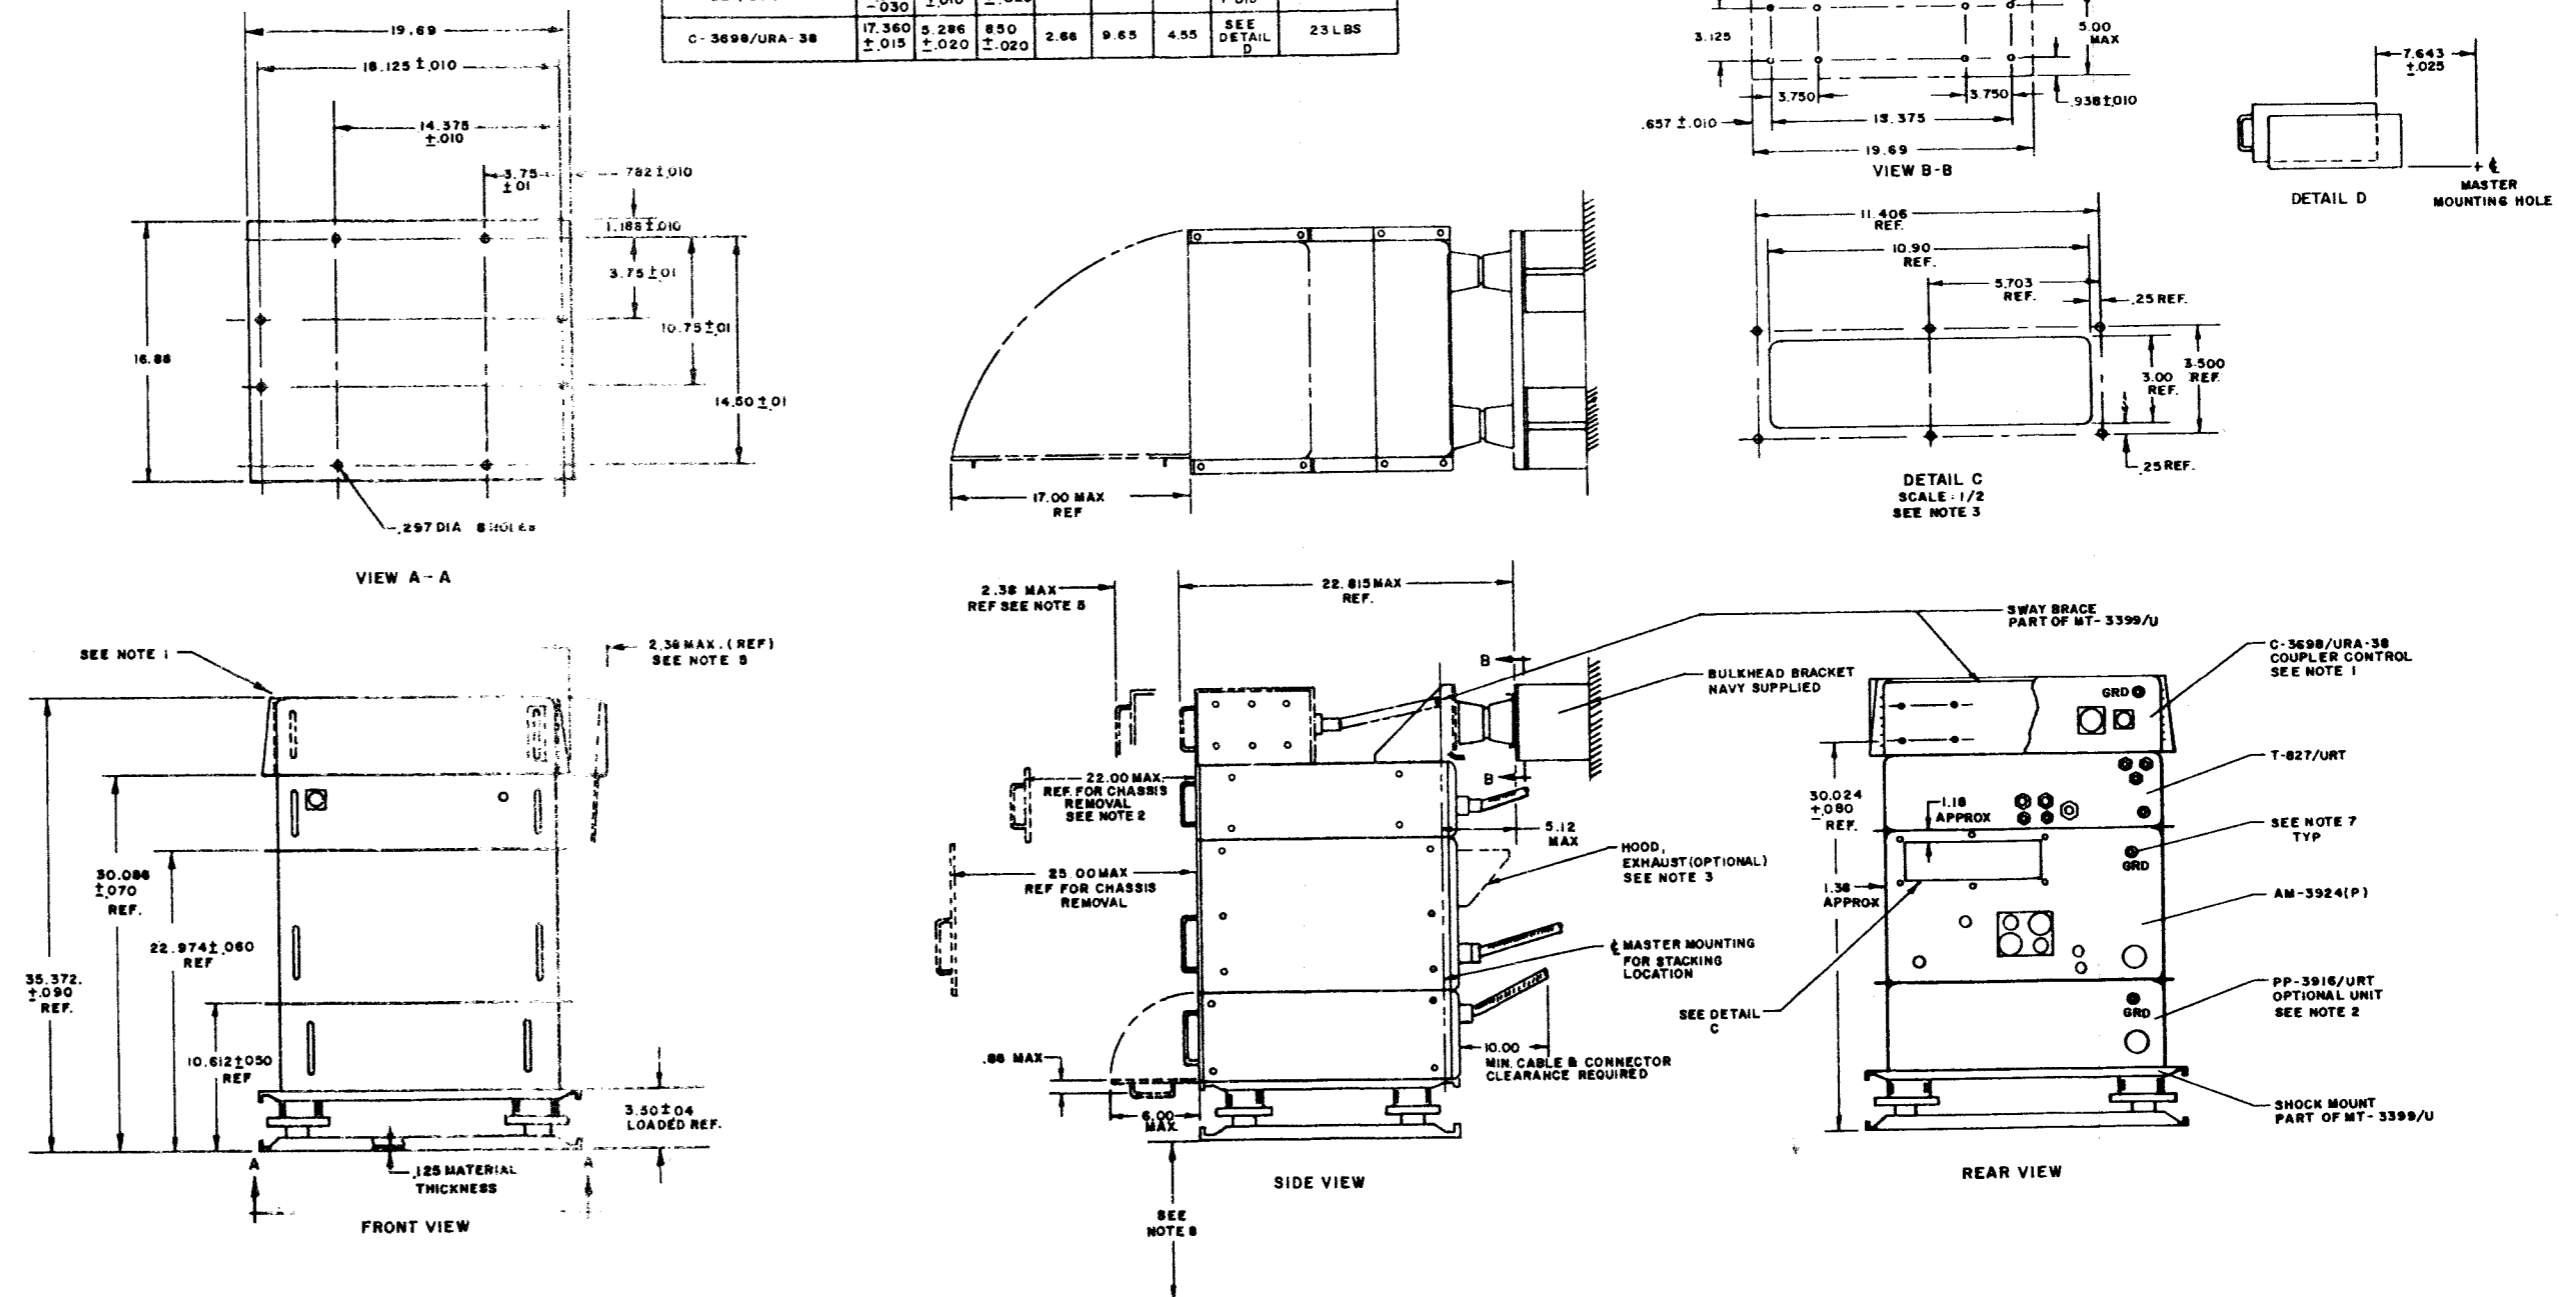

Figure 2-1. Radio Transmitting Set AN/URT-23(V), Outline and Mounting Dimensions
2-9. In selecting a shipboard installation site, adequate consideration must be given to space requirements (figure 2-1). This requirement will include space for servicing the slide-mounted T-827()/URT and AM-3924(P)/URT when extended from their cases, and cable bends. In addition, during 400 Hz operation, the stack must be mounted at least four inches above deck to allow the AM-3924(P)/URT chassis only (when extended from case) to be rotated upwards for servicing. If the exhaust from the
- c. Using the dimensions shown in view A-A of figure 2-1, drill eight 0.297 inch diameter holes for securing the shock mount base plate to selected mounting surface.
- d. Remove the AN/URT-23(V) from the shipping carton.
- h. Attach the swaybrace to the top unit of the AN/URT-23(V) with 5/16-18 hardware (to be supplied by the installing activity).
- i. Measure the distance from the sway brace vibration isolators to the bulkhead (figure 2-1). Using the dimensions shown in view B-B of figure 2-1, modify bulkhead as required to interface with the sway brace. Secure swaybrace to bulkhead, using 5/16-18 hardware (to be supplied by the installing activity).
- j. If used, position the C-3698/URA-38 as shown (phantom) in figure 2-1 and secure by bolting the mounting brackets to the top of the T-827/URT mounting brackets.
It is advisable to use the same installation configuration used for stack mounting (figure 2-1) so that supplied cables will reach.
2-27. Precautions should be taken to ensure that nothing obstructs the AM-3924(P)/URT front panel air intake filter or the air exhaust at rear of the case. If exhaust air is ducted, provisions (such as a booster fan in the duct work) must be made to compensate for the impedance of the duct work so that a minimum of 140 CFM of air flows through the air exhaust on the rear of the case. Six holes, tapped for 6-32 hardware, are provided on the perimeter of the AM-3924(P)/URT exhaust port for attachment of the duct (figure 2-1). Length of 6-32 screws must be chosen to prevent interference with rubber gasket on far side of exhaust port (figure 2-1). If no ducting is to be used, and the units will be exposed to the elements, an exhaust hood should be fabricated using the information provided in figure 2-3. The hood should then be attached to the AM-3924(P)/URT exhaust port with 6-32 screws as shown in figure 2-1.